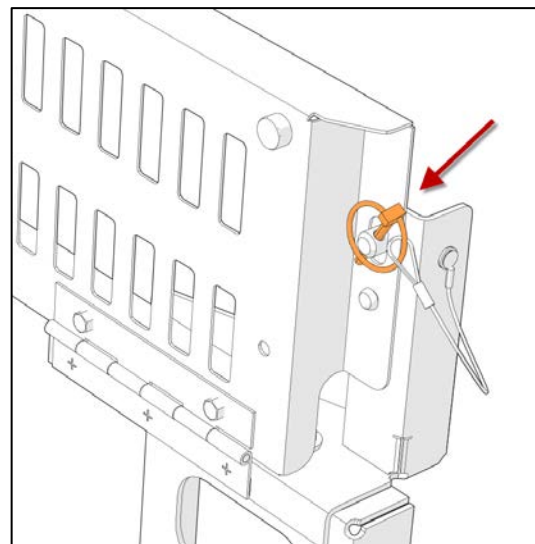

Figure 11
11. Make sure the guard is raised and locked in place with the locking pins (2) as shown on Figure 11.